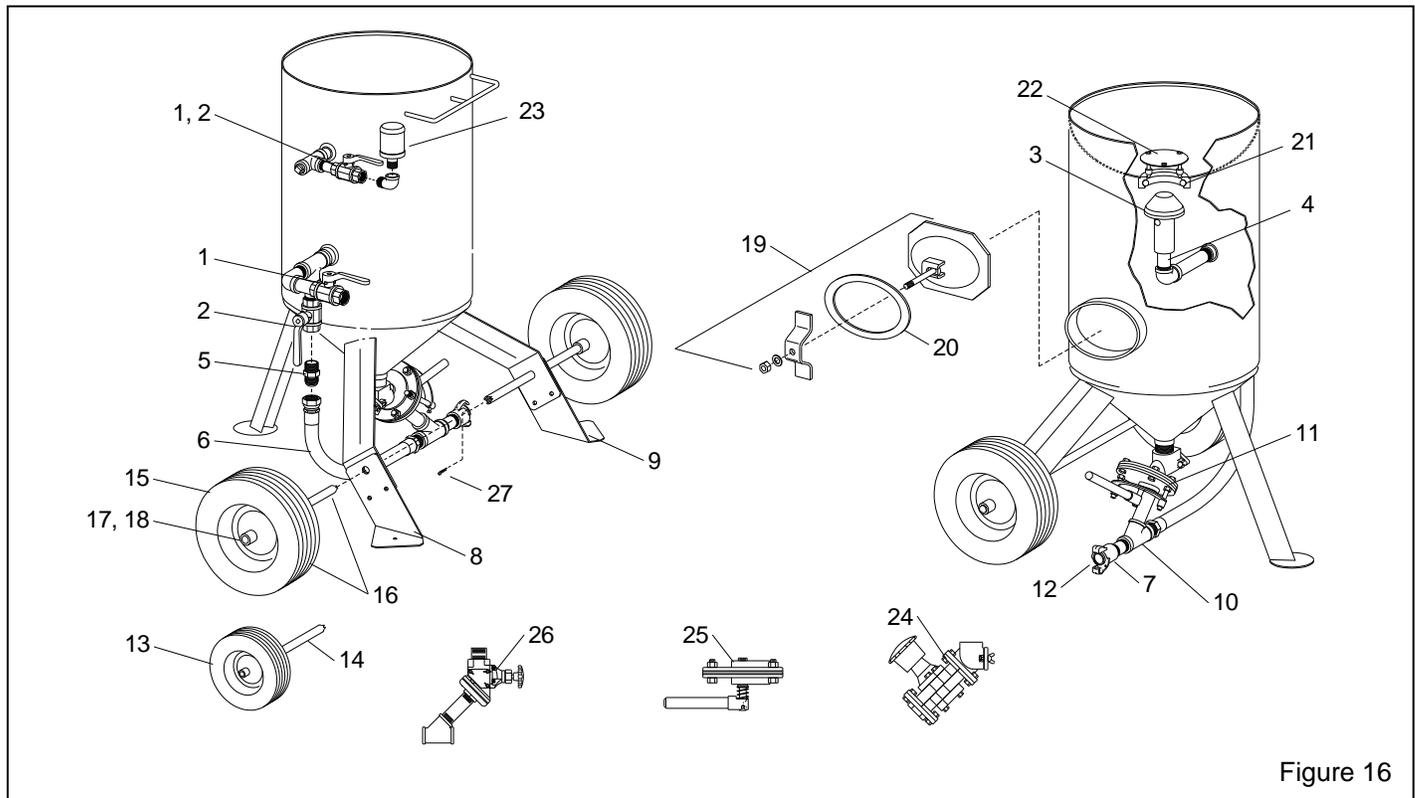

Figure 16
8.2 Blast Machine and Accessories, Figure 16